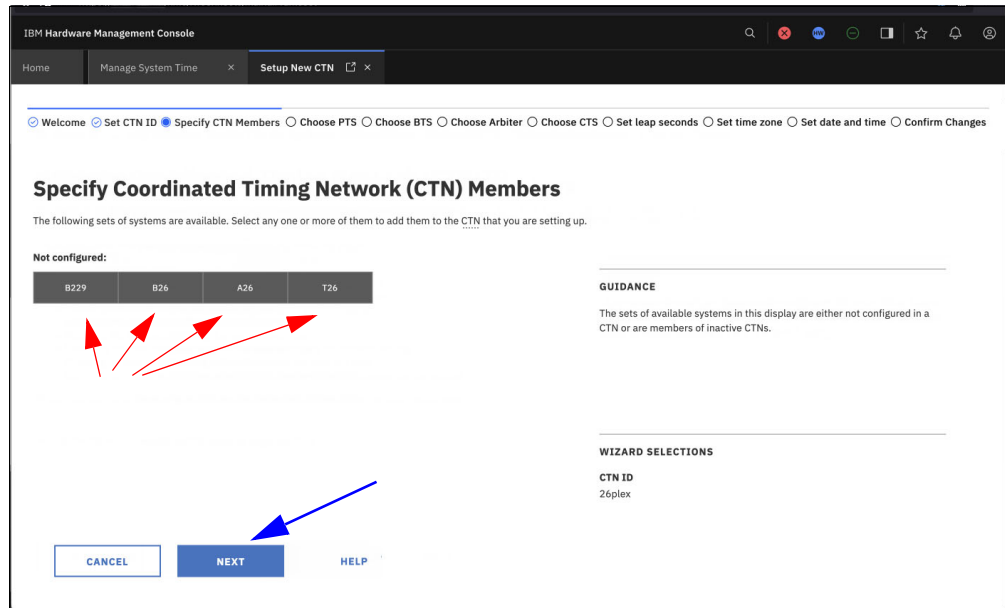

Figure 3-8 Selecting CTN members
6. Click each server to add it as a member. The example uses all four servers, as in Figure 3-8. Click **Next**.